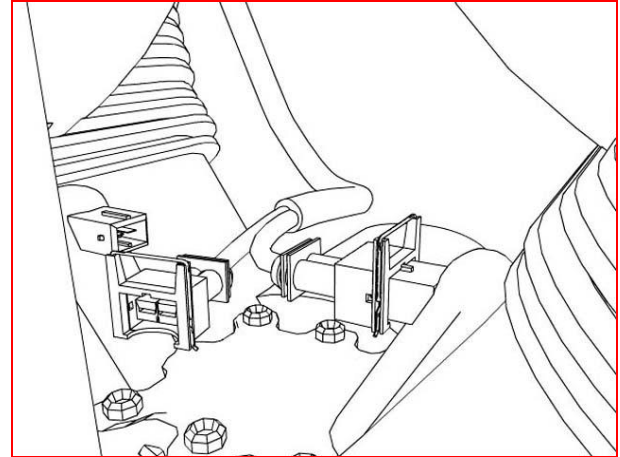

Figure 7
9. View from right. Depress locking bails and remove injector connectors. Rear first, then front. Do not pull the wires. (fig 7,8)